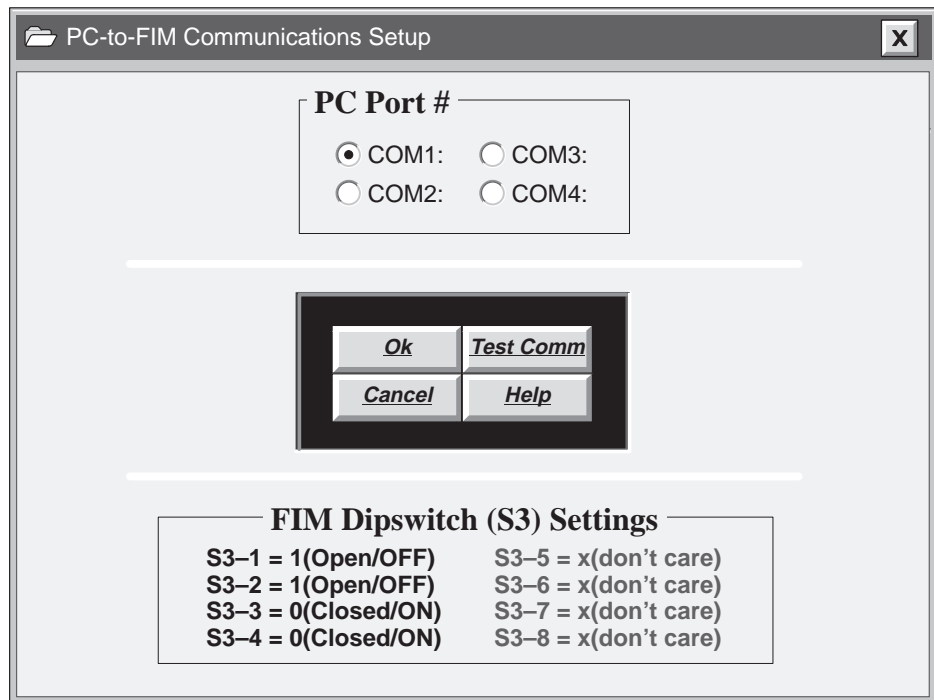

Figure 6-6 PC-to-FIM Communications Setup Dialog Box
Result: The PC-to-FIM Communications Setup dialog box appears, as shown in Figure 6-6.
6. Select the Test Comm button (shown in Figure 6-6). If everything is connected properly, a confirmation message is displayed; otherwise, a failure message is displayed.